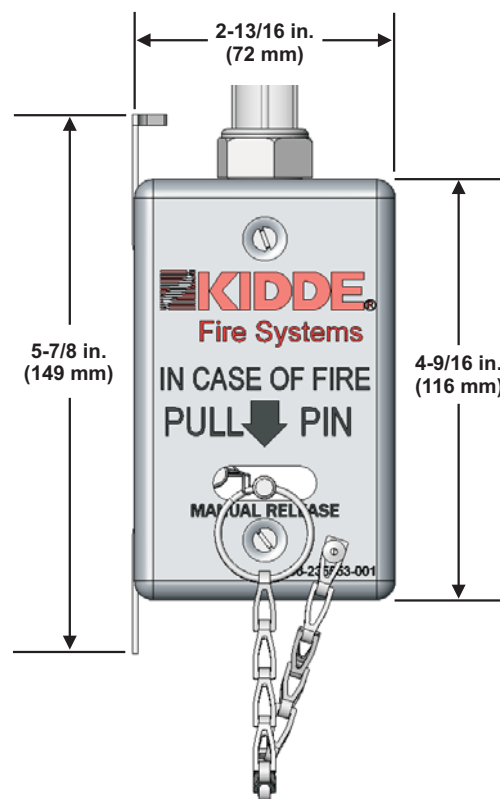

Figure 2-36. Recess Mounted End-of-Line, Remote Manual Release, P/N 87-120050-001
- In-Line Surface Mounted Remote Manual Control (with In-Line Kit), P/N 87-120053-001 (Figure 2-36)
— designed for use at the end of the detection line (Figure 2-36).